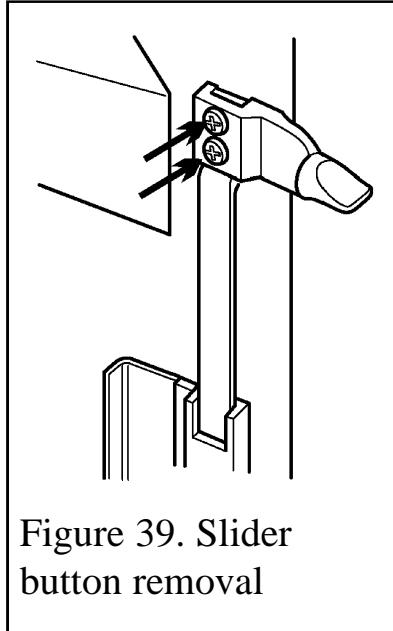

Figure 39. Slider button removal
3. Detach the control slide button from the slider control by removing two screws (See figure 39).